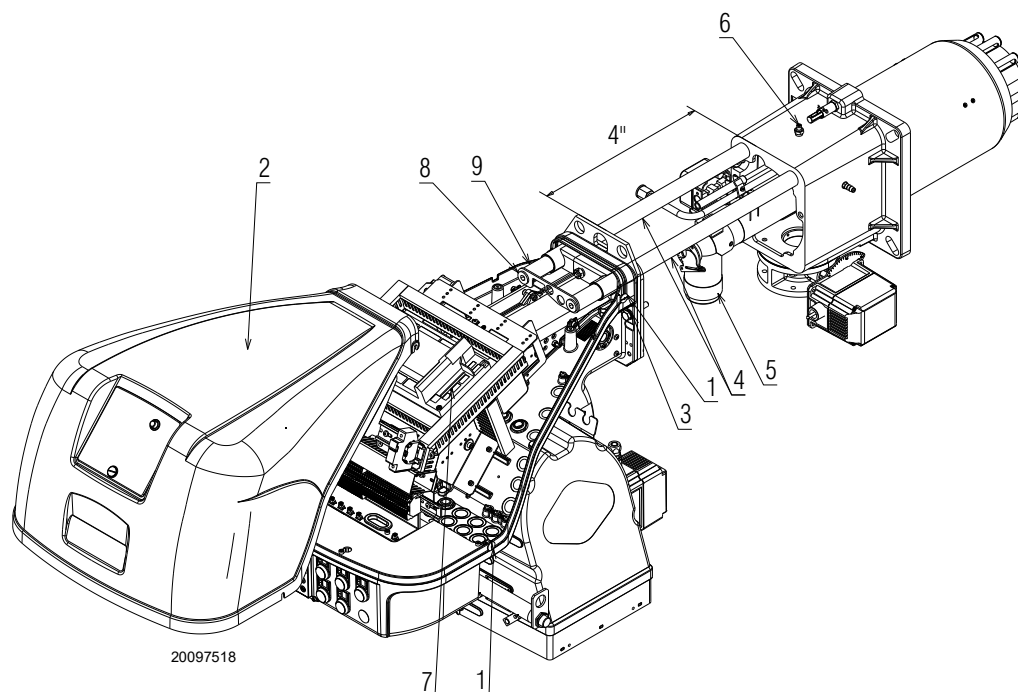

Fig. 43
- loosen the 4 screws 1)(Fig. 43) and remove the cover 2);
- remove the 2 extensions 9)(Fig. 43) and re-screw the screws 8) on the sliding bars 4);